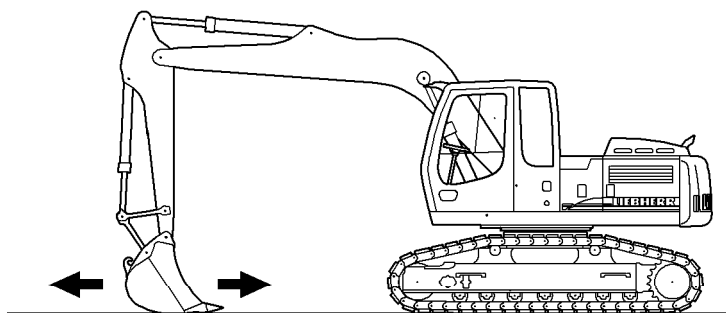

Fig. 3-133 Skimming
- ▶ To skim with a backhoestick bucket, lay this on the ground (siehe Fig. 3-133) and move the stick slowly forwards and backwards. Move the boom steadily up and down while the stick is moving.